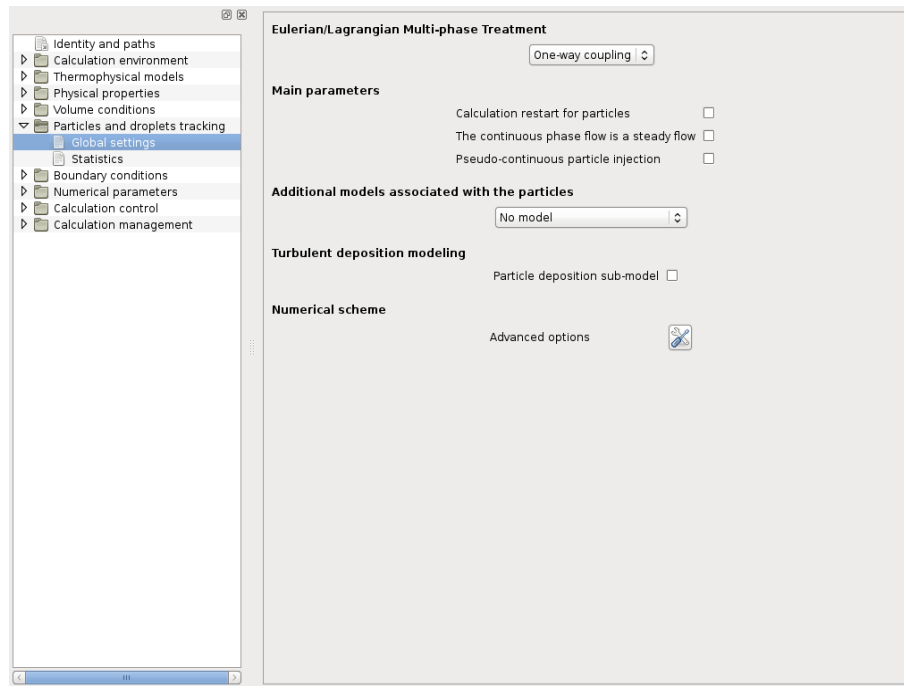
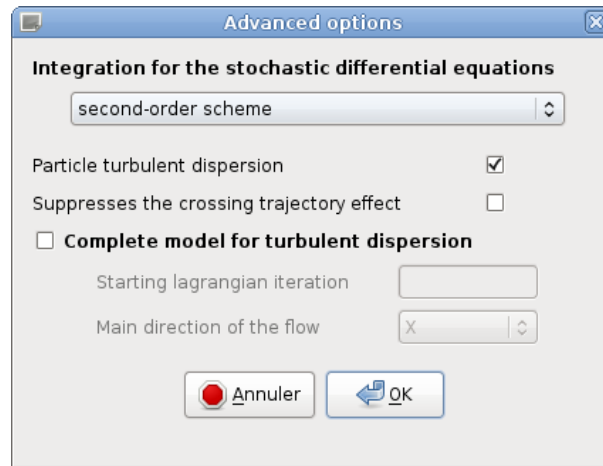

Figure 55: Lagrangian module - View of the Global Settings page
Figure 56: Lagrangian module - Global Settings, advanced numerical options
- **Global settings.** The user defines in this item the kind of Euler/Lagrange multi-phase treatment, the main parameters, the specific physics associated with the particles and advanced numerical options, see Figure 55 to Figure 56.